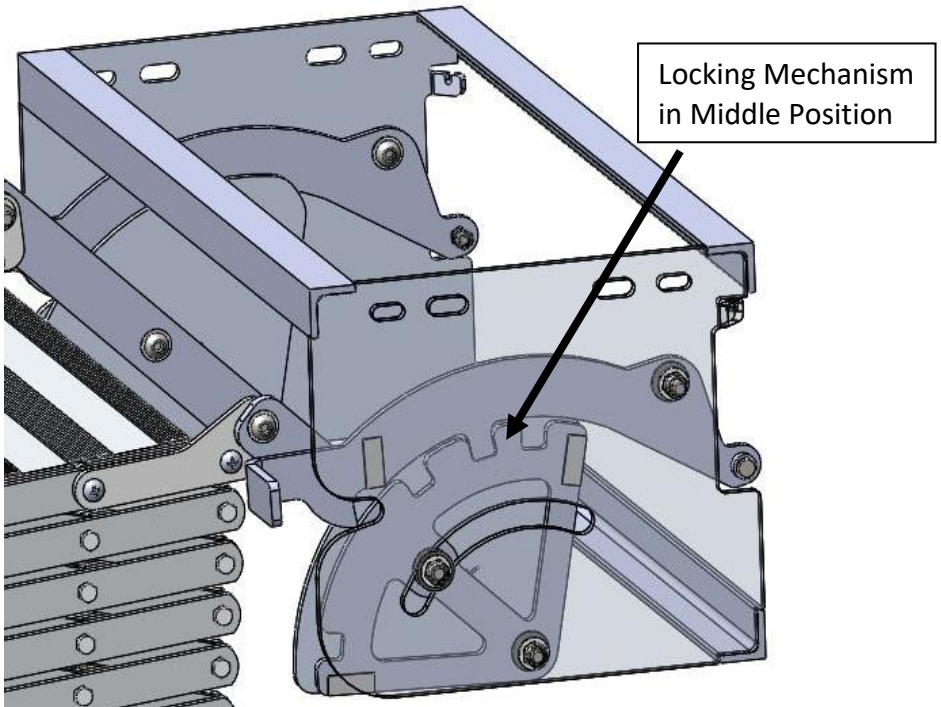

Figure 6.1
Since camp sites are rarely level, the top step can be raised or lowered 2" by moving the GlowStep Revolution frame into the High or Low position. This is accomplished by lifting one of step release levers, and then moving the steps in or out of the GlowStep Revolution frame until the locking mechanism locks into the next position. See *figure 6.1*.
When installing a Torklift GlowGuide, the GlowGuide Bracket and GlowGuide Adapter will need to be installed as shown in figure 6.1. The GlowGuide Brackets can be installed on either All Terrain Landing Gear, depending on the side the GlowGuide is installed on. First, attach the GlowGuide Bracket to the GlowGuide Adapter. Next, attach the GlowGuide Adapter to the All Terrain Landing Gear. If these parts are not included with your glow guide, please contact Torklift International Customer Support at (800) 246-8132.